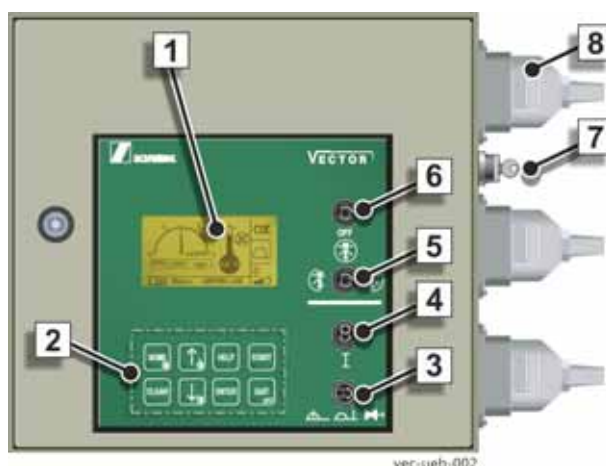

Fig. 116 Switch cabinet for VECTOR control system
The computer boots up, which is indicated by a progress bar on the display (1) (**Fig. 116**).
- Flip the selector switch (3) (**Fig. 116**) to the "Local control" position.
Display (1) (**Fig. 116**) contains a relevant note, see “**VECTOR control system**” on page 119.
▶ Start the control with the button (4) (Fig. 116).
Display (1) (**Fig. 116**) indicates the rotational speed of the power take-off or the drive speed of the distribution manual transmission gear.